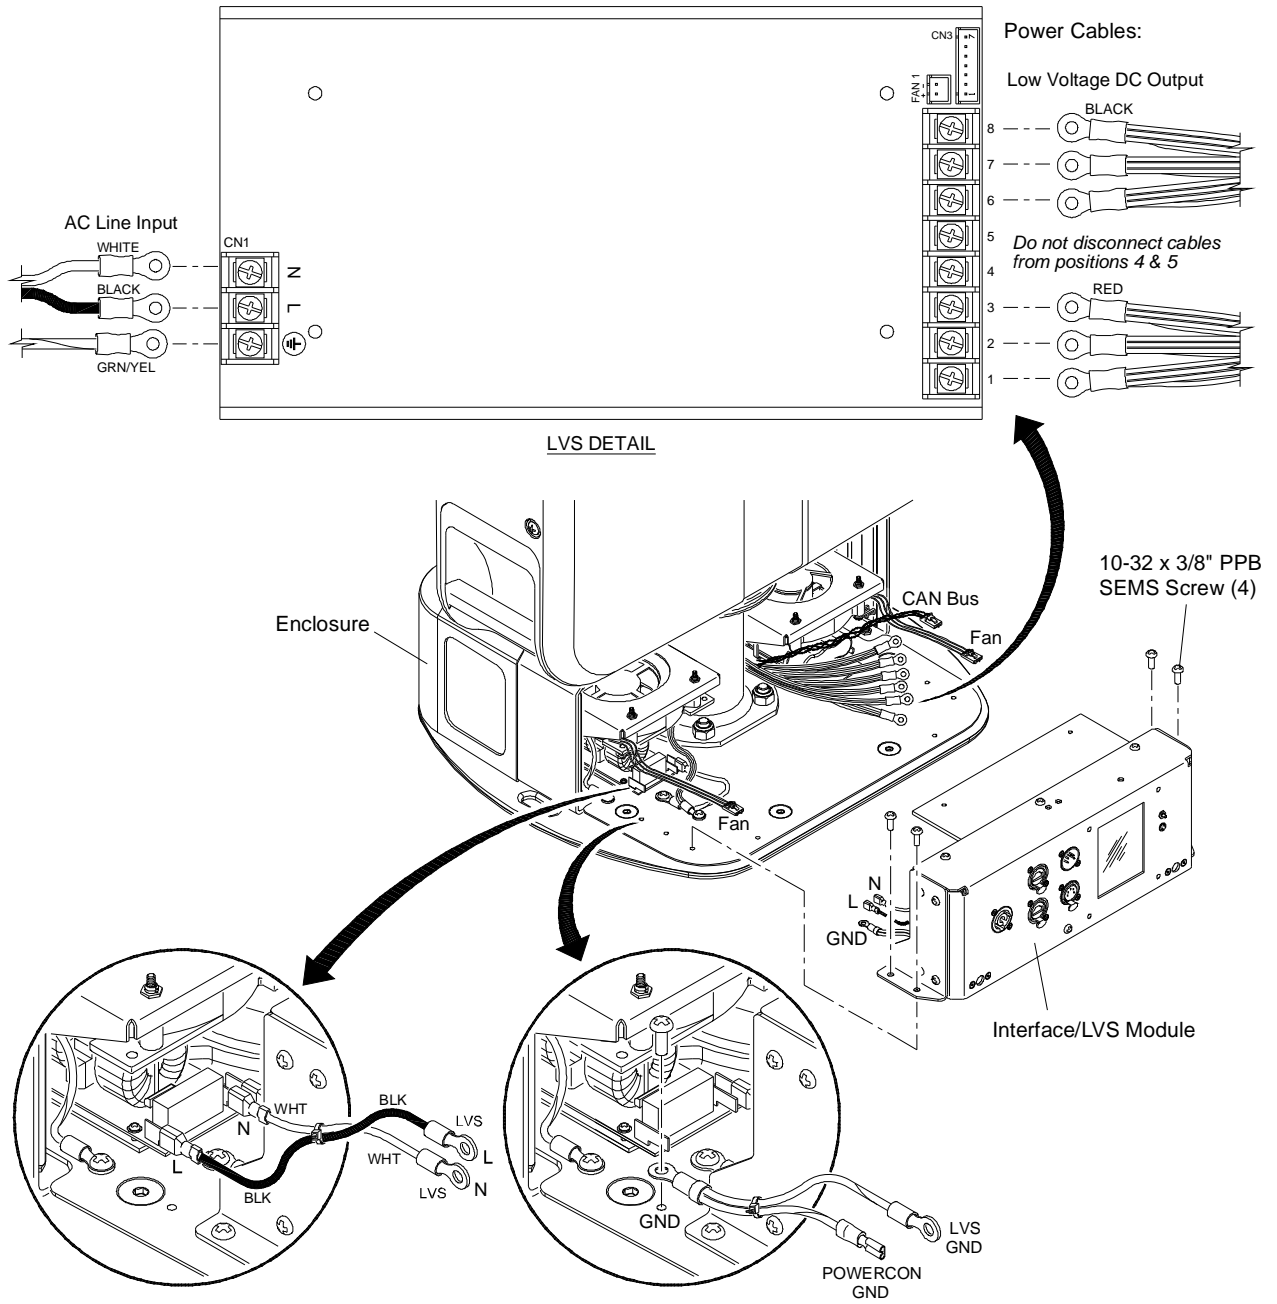

Figure 3-35: Removing Interface/LVS Module
- Step 3. At Interface/LVS Module, remove four 10-32 x 3/8" PPB SEMS screws (**Figure 3-35**).